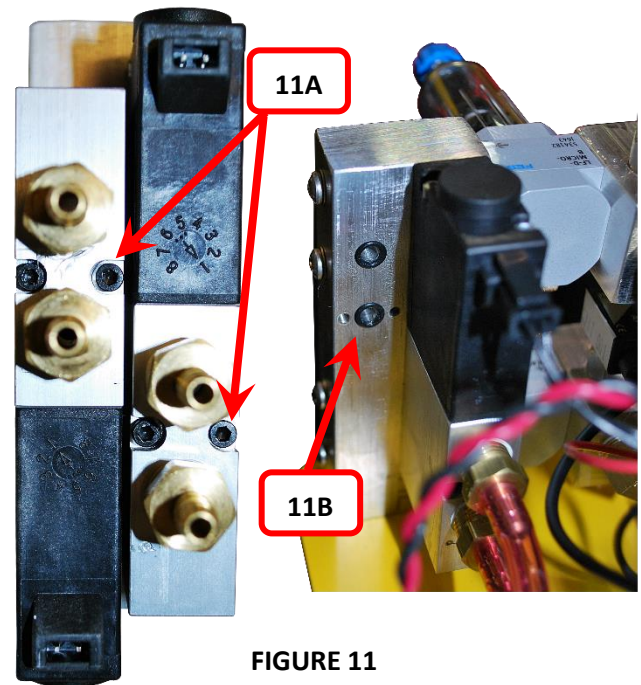
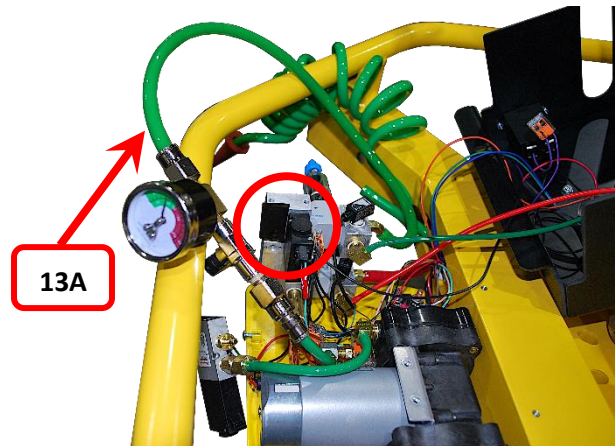

FIGURE 11
FIGURE 13
18) To seal off the (unthreaded) port of the manifold where the valve was attached, remove the two O-rings (**FIGURE 11**, detail **11B**), clean the surface with alcohol (to remove any grease) and place a piece of vinyl electrical tape over the port as shown in **FIGURE 13** (circled area).